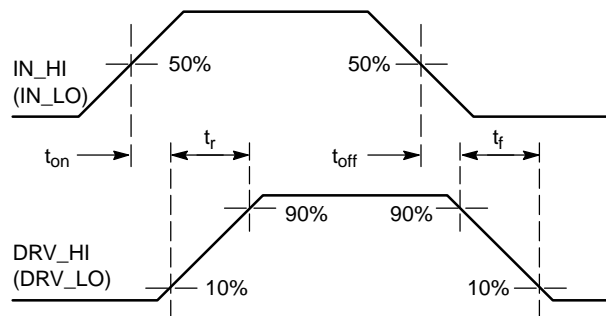
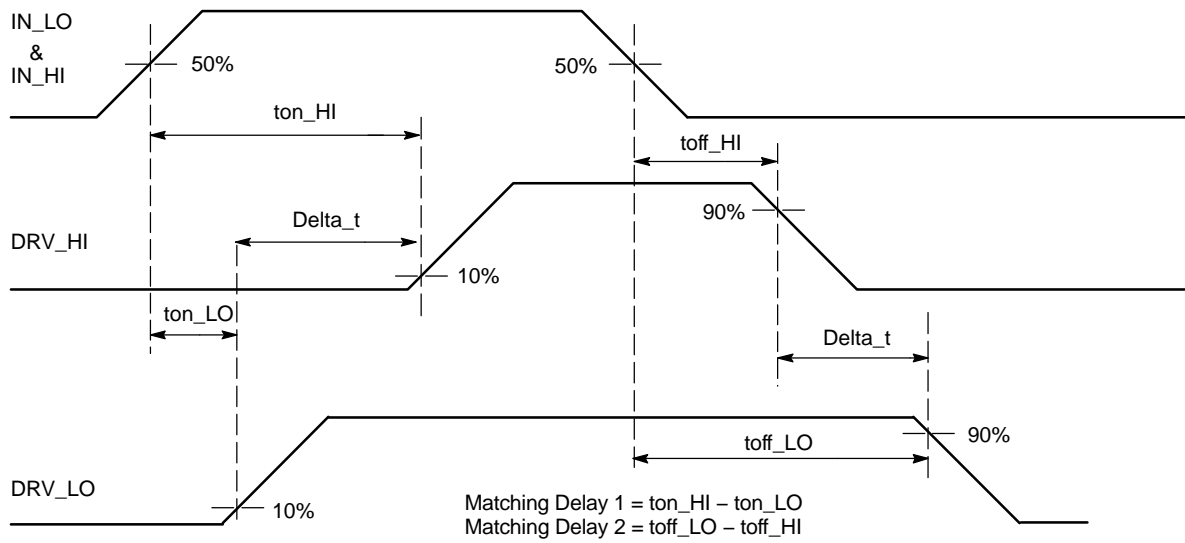
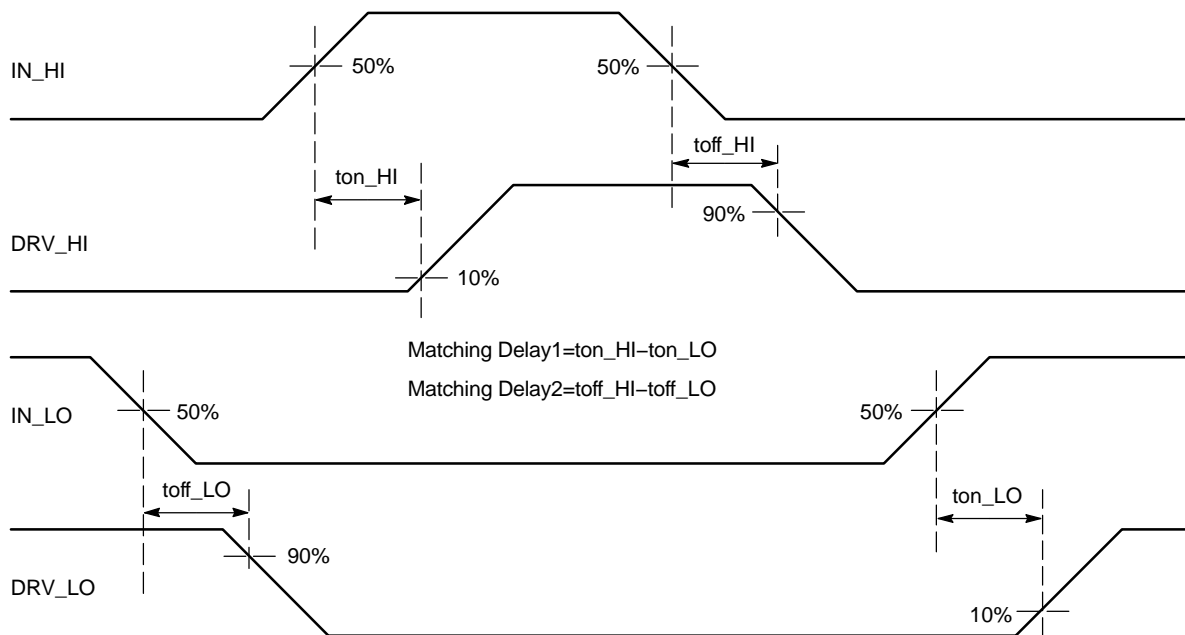

Figure 7. Propagation Delay and Rise / Fall Time Definition
Figure 8. Matching Propagation Delay (A Version)
Figure 9. Matching Propagation Delay (B Version)
- Timing diagram definition see: Figure 7, Figure 8 and Figure 9.